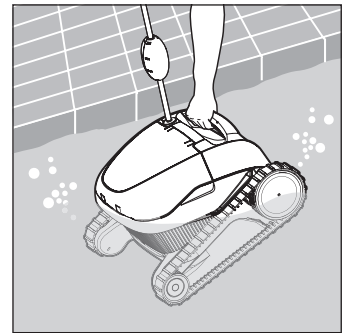

Figure 8
3. Using the handle, lift the cleaner out of the pool. See **Figure 8**.